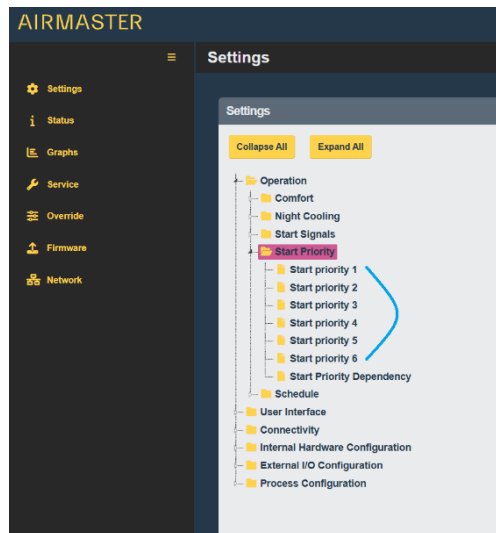

Figure 32: Start Priority sub-menu
2. Click on the priority you wish to configure, see Figure 32 below: